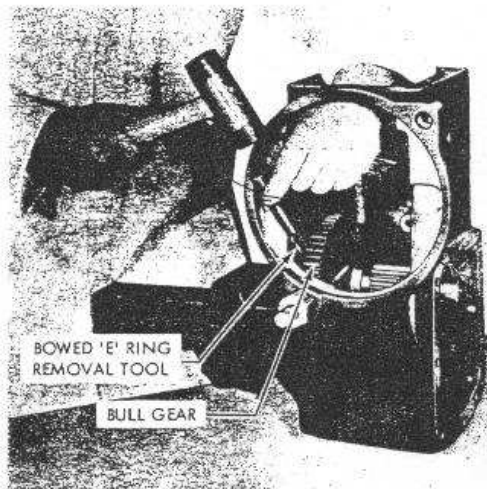

Figure 14
6. Refer to Figures 14, 15 and 17, and remove bowed E-ring (47). While holding bull gear (48), slide intermediate shaft (50) and spacer (49) out of transaxle housing.